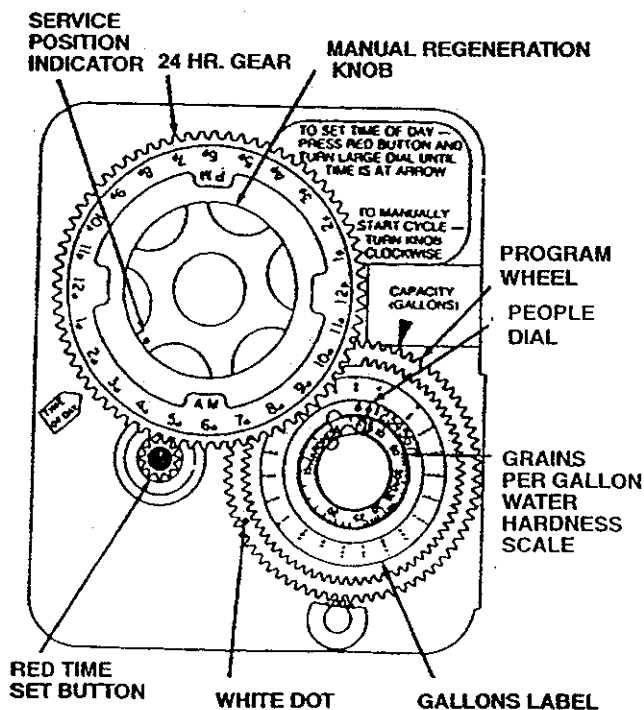

Figure 1
2. The control valve **must be in the SERVICE position!** If needed, rotate manual regeneration knob on timer clockwise until white dot aligns with raised time of day arrows. (See Figure 1.)
2. The control valve **must be in the SERVICE position!** If needed, rotate manual regeneration knob on timer clockwise until white dot aligns with raised time of day arrow. (See Figure 1.)
1. Locate the program wheel just to the lower right of the manual regeneration knob. (See Figure 1.)
2. Rotate program wheel until the white dot located on the outermost gear is aligned with the capacity (gallons) arrow on the timer. (See Figure 1.)
4. Lift out the "people" dial and rotate it so that the number of people in the family is aligned with the compensated hardness in grains per gallon. The capacity arrow will now be aligned to the gallons of water that will be used between each regeneration as shown on the gallons label located outside the "people" dial. (See Figure 1.) If preferred, the unit can be set by the gallons using this procedure. To calculate gallons, divide the grain capacity of the unit by the compensated hardness level. It is then advisable to subtract one day of water usage to provide a reserve. These settings will assure ample soft water for the family and automatically set a reserve capacity into the system.
1. Depress the red button on lower left side of valve timer door. (See Figure 1.)